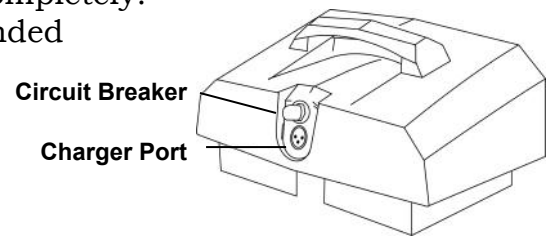

Figure 26. Battery Pack
The charger for all Buzzaround Lite models is an off-board charger. To charge the batteries, plug the charger into the charger port on the battery pack or on the side of the console. See figures 26 and 27. When the batteries are fully charged, disconnect the charger power cord from the wall outlet and from the charging socket. **Note: Your scooter will not move while the charger remains connected.**
- Check the main circuit breaker. If necessary, reset the circuit breaker. See figure 26 on page 32.
The main circuit breaker reset button is located on the battery pack. See figure 26 on page 32.
4. Press in on the main circuit breaker reset button. See figure 26 on page 32.